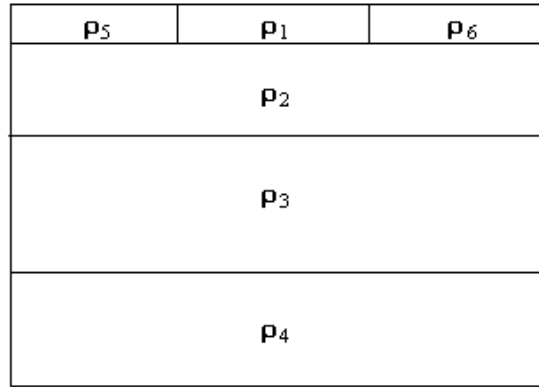
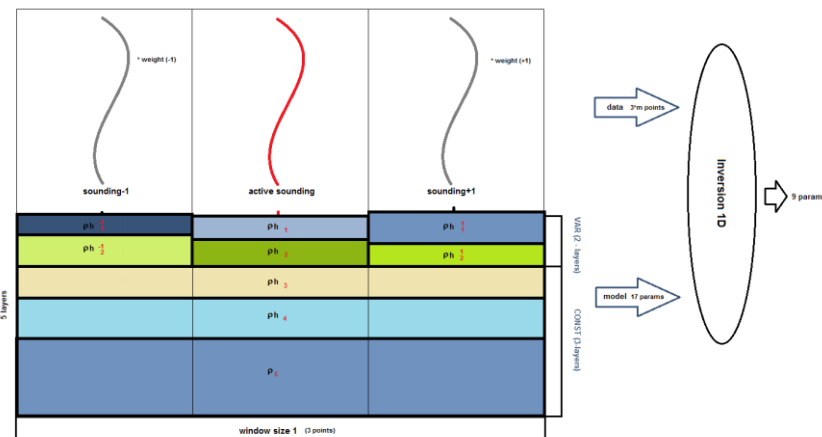

Fig. 15 Sunsurface model for 1.5D inversion
Fig. 16 Scheme of 1.5D inversion
For this algorithm subsurface model is considered to be horizontally layered or near-horizontally layered (with smooth boundaries) at the bottom. Top part of the section can change greatly from point to point (fig. 15). A few adjacent soundings which have common bottom part and variable top part are used for inverse solution. Fitting is conducted simultaneously for all curves in the window and central point has the greatest weight for discrepancy calculation (fig. 16).
Figure 15 shows results of this algorithm (A) compared to results obtained by standard procedure (B).